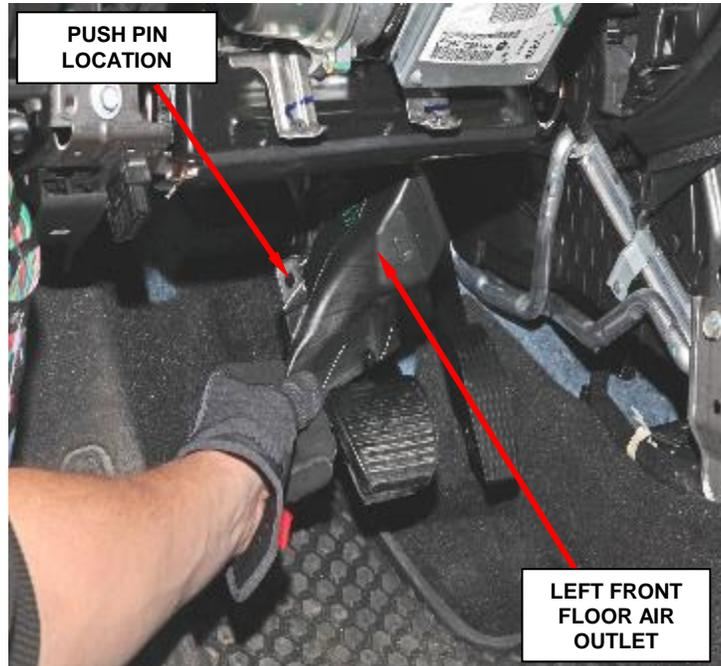

Figure 20 - Left Front Floor Air Outlet
49. Remove the retaining push pin from the instrument panel carrier (Figure 20).
50. Disengage the left front floor air outlet from the HVAC housing (Figure 20).
51. Remove the left front floor air outlet from the vehicle (Figure 20).